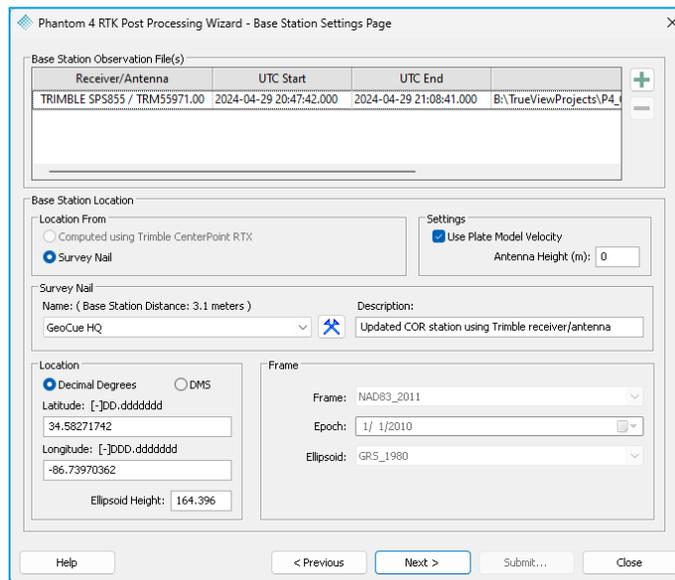

Figure 146 – Base Station Settings
- 4. Select Next to move to the next page of the dialog. If using single base as the processing mode, the next page will be the Base Station Settings page (Figure 146). If using Smart base or PP-RTX, the next page will be the Processing Confirmation page.
- 5. The **Base Station Input** page only appears when processing using the single base option. The bullets below correspond to Figure 146.